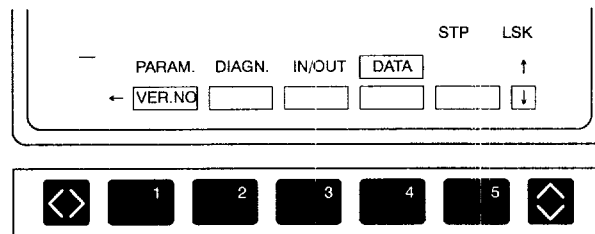

Fig. 9.2
- ① Press the [MAINT] process key on the NC operation panel.
- ② Press the FUNCTION SELECT key in the function selection mode, and the function soft-key as shown in Fig. 9.2 is displayed.